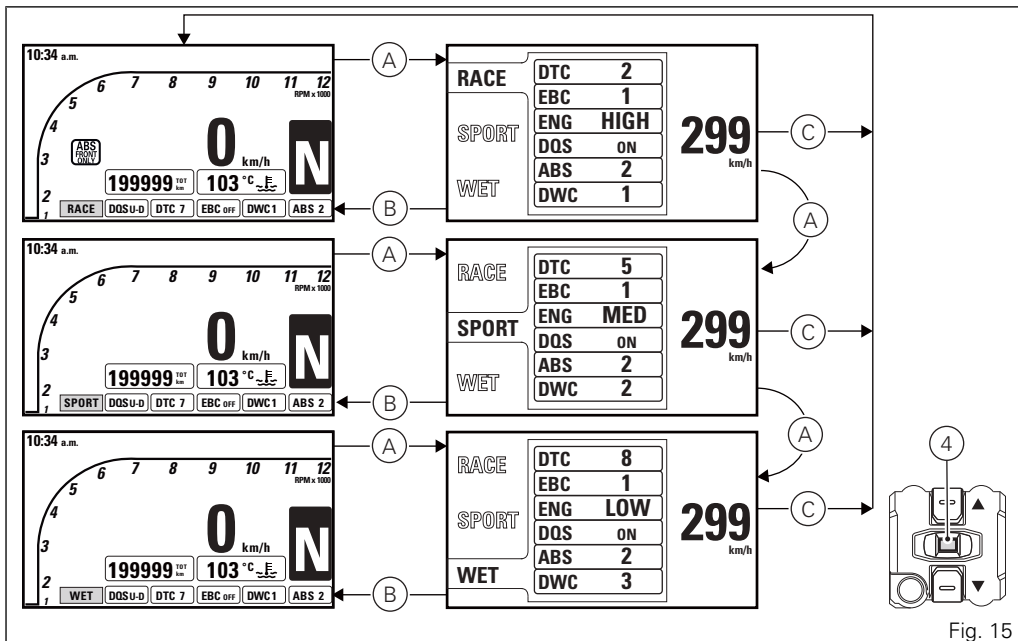

Fig. 15
is highlighted together with the associated parameters (A, Fig. 15).
Once the desired riding mode is highlighted, confirm the selection by holding down the CONFIRM MENU button (4) for 2 seconds: the new riding mode selection is stored and the Standard Screen (B, Fig. 15) is displayed.
Once the desired riding mode is highlighted, if the CONFIRM MENU button (4) is not pressed within 10 seconds, the new riding mode selection is not stored and the Standard Screen (C, Fig. 15) is displayed.